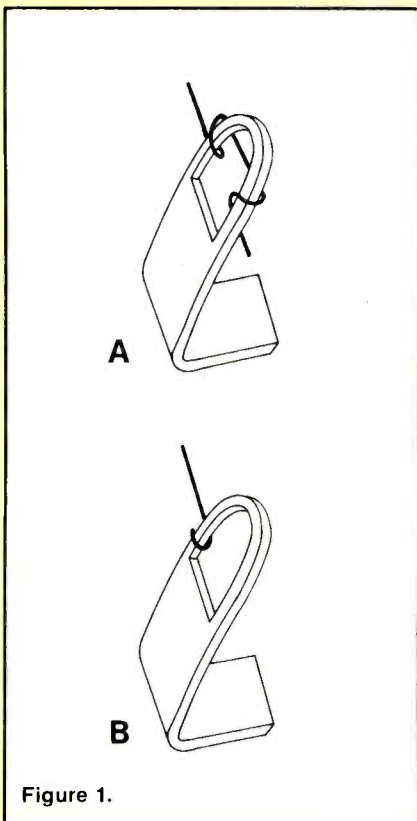

Figure 1.
Next all electrolytic capacitors were tested for capacitance using a portable digital readout meter. C711 (the bypass for the +24V source and not shown in Figure 1) measured only 29.5 μ F although it was rated at 47 μ F. Unfortunately, replacement of C711 did not solve the erratic start-up problem.
Capacitor C707 was tested in-circuit twice and a different reading was obtained each time. When disconnected and tested out of circuit, C707 had a capacity of only 7.5 μ F, although Figure 1 calls for 10 μ F. Replacement of C707 with a new 10 μ F 200V capacitor normalized the start-up.
1. Figure 1 shows wires attached to terminals in preparation for soldering. Which of the following is correct?